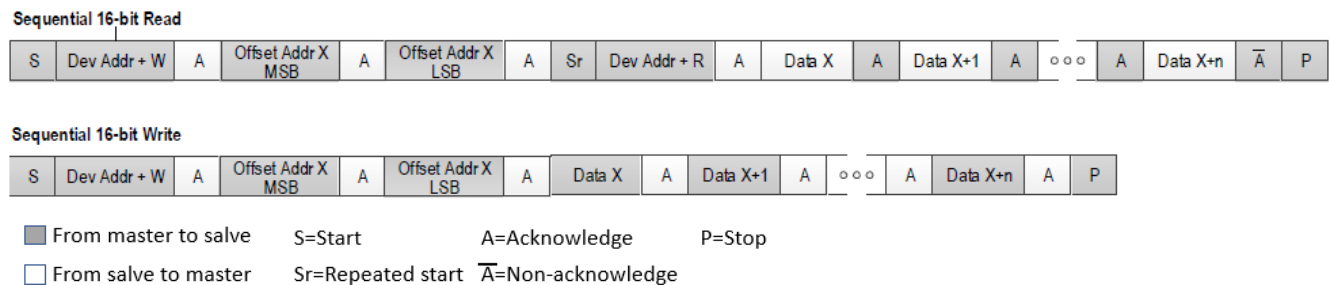

Figure 2. I2C 2-Byte Offset Mode Slave Sequencing
- The 2-Byte offset mode – Use two byte as the serial port providing the full offset address within each burst. For an I2C 2-byte offset mode operation example, see Figure 2.